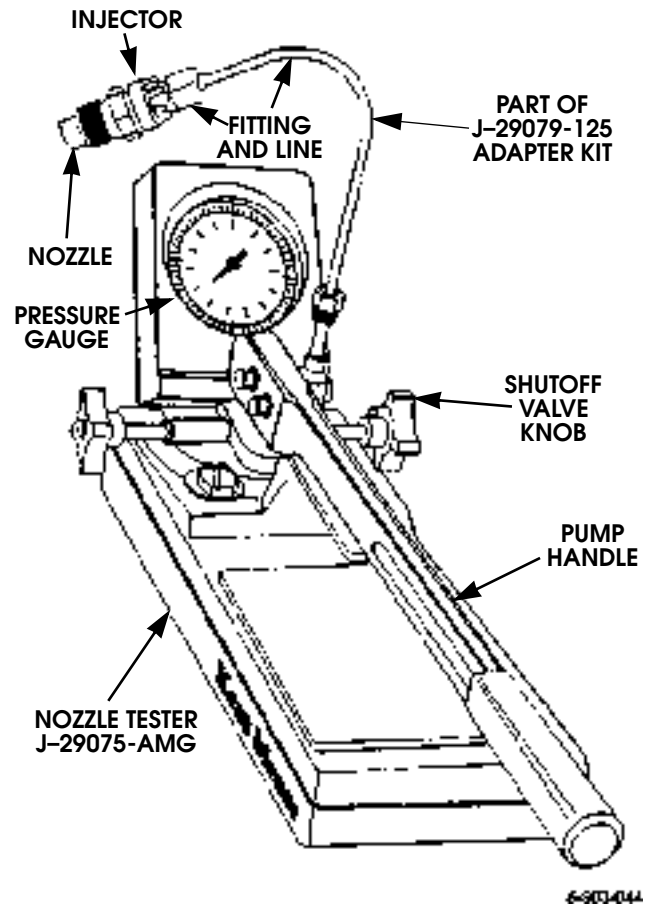

Figure 3-10: Pressure Testing Diesel Fuel Injector
4. Attach injector to fitting and line on test tool (Figure 3-10).
5. Close shutoff valve on tool (Figure 3-10).